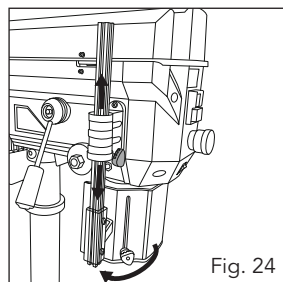

Fig. 24
1. By loosening the rail screw (7) the height of the safety guard (8) is infinitely adjustable. The safety guard can also be flipped to the side, exposing the chuck and enabling bits to be changed. (Fig. 24).
IMPORTANT! The safety guard (8) is equipped with a microswitch. This prevents the machine starting up if the safety guard is in the open position. To ensure that it functions correctly, the safety guard (8) must be in the "closed" position (Fig. 24).